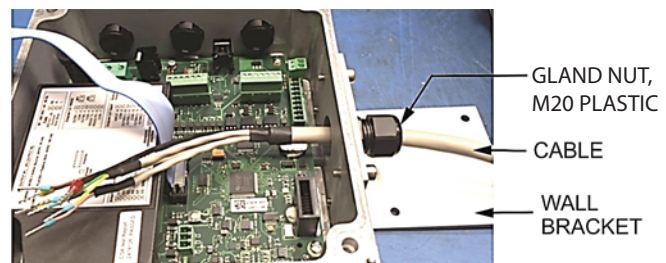

Figure 6: M2000 connector to amplifier housing/bracket assembly
5. Attach the gland nut, M20 plastic, to the amplifier housing/bracket assembly and torque the nut to 5.2 Nm. See *Figure 6*.
6. Slide the other cable end into the amplifier box. Hold the wires in place and tighten the plastic connector. See *Figure 6*.